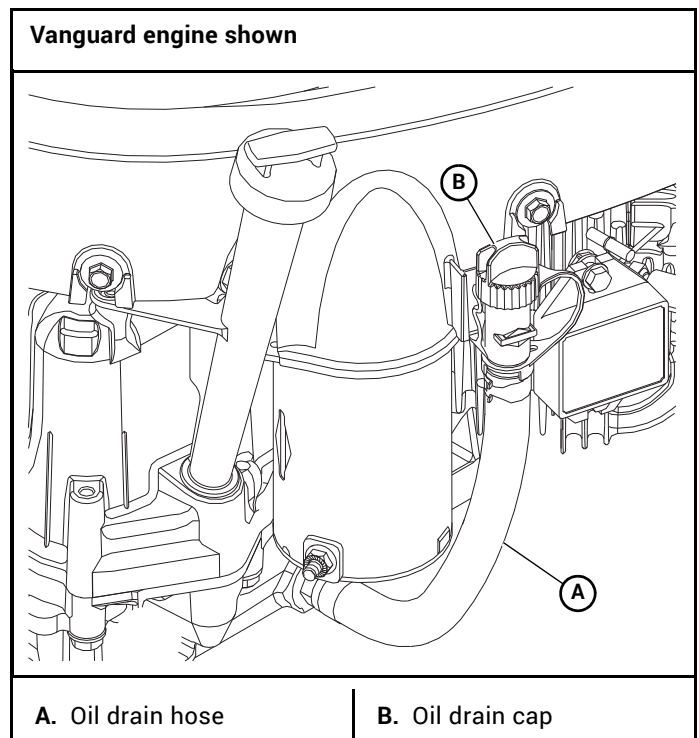

Figure 4-14
1. Locate the oil drain cap and hose on the left side of the engine. Make sure to clean and clear it of debris that might block the flow of the engine oil. Figure 4-14
6. Place the hose back into the original position. Figure 4-14